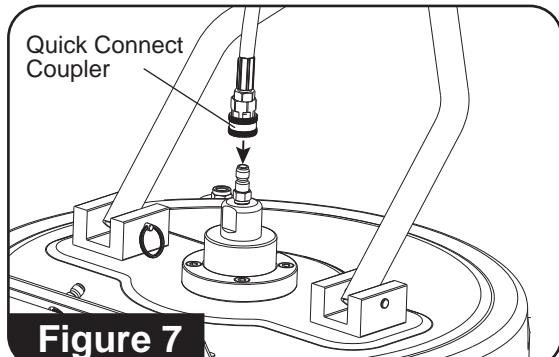

Figure 7
7. Attach the quick connect coupler on the other end of the hose to the inlet plug. (See Figure 7)